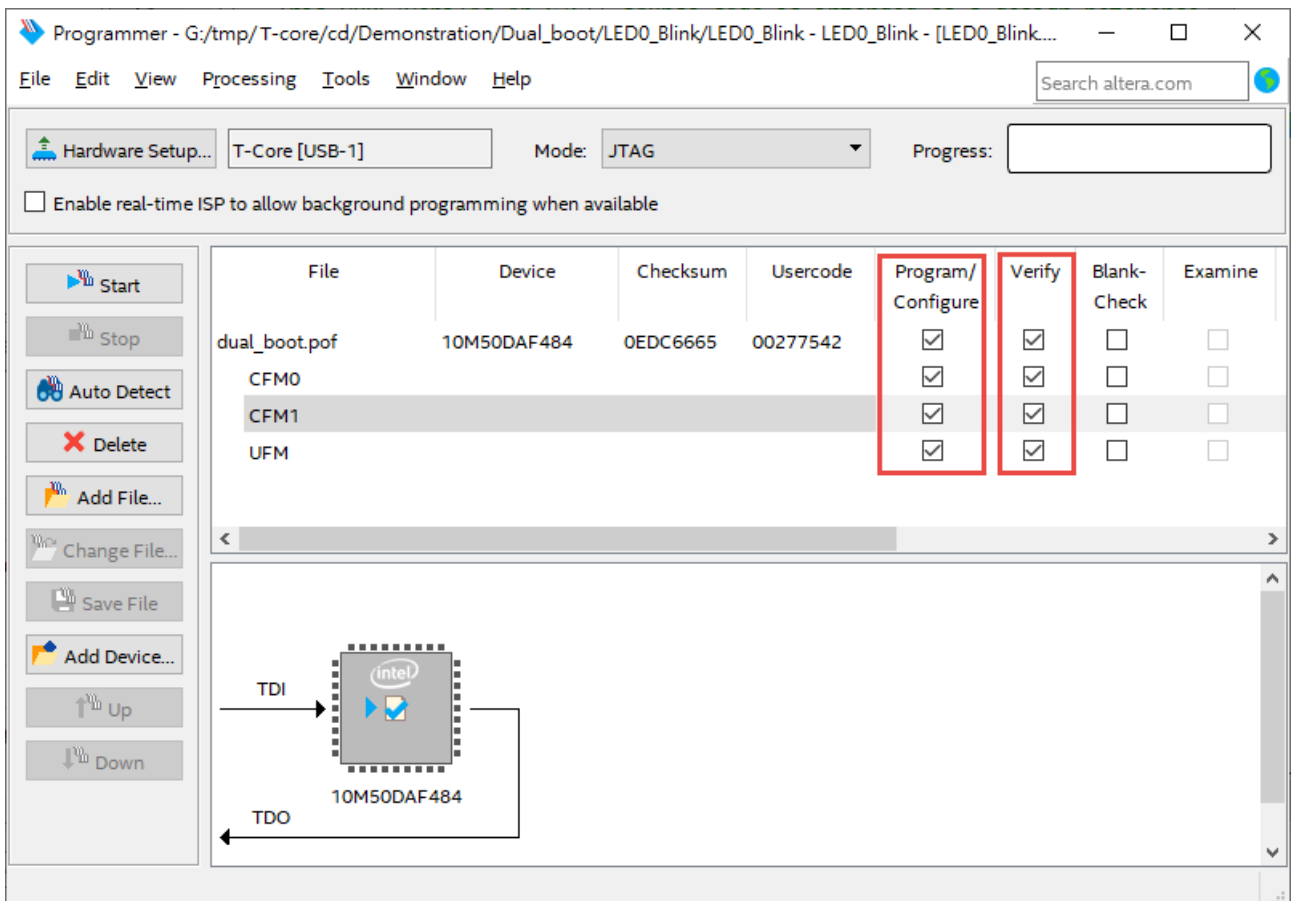

Figure 4-17 Programmer window with dual_boot.pof file
4. Program the **CFM** device by clicking the corresponding **Program/Configure** and **Verify** box, as shown in Figure 4-17.